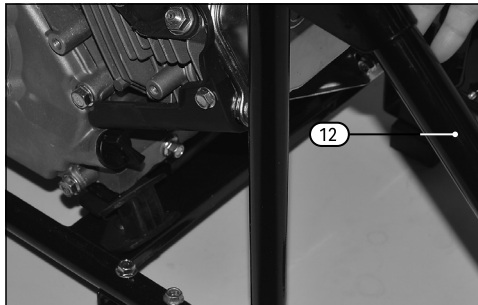

Fig. 3
1. Remove the nuts and flange bolts (13A) from the curved plate of the support feet (13).
6.3 Attach the Transport Handles (Fig.3)